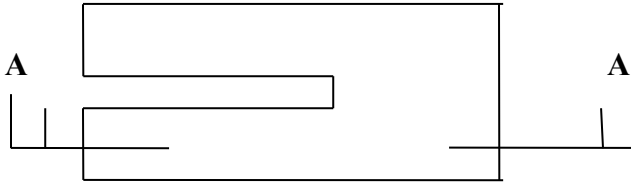

Fig. 2
- b. Figure 2 below shows the plan of a stair. To a scale of 1:25 draw section A- A using the data provided in Table 1. (16 Marks)